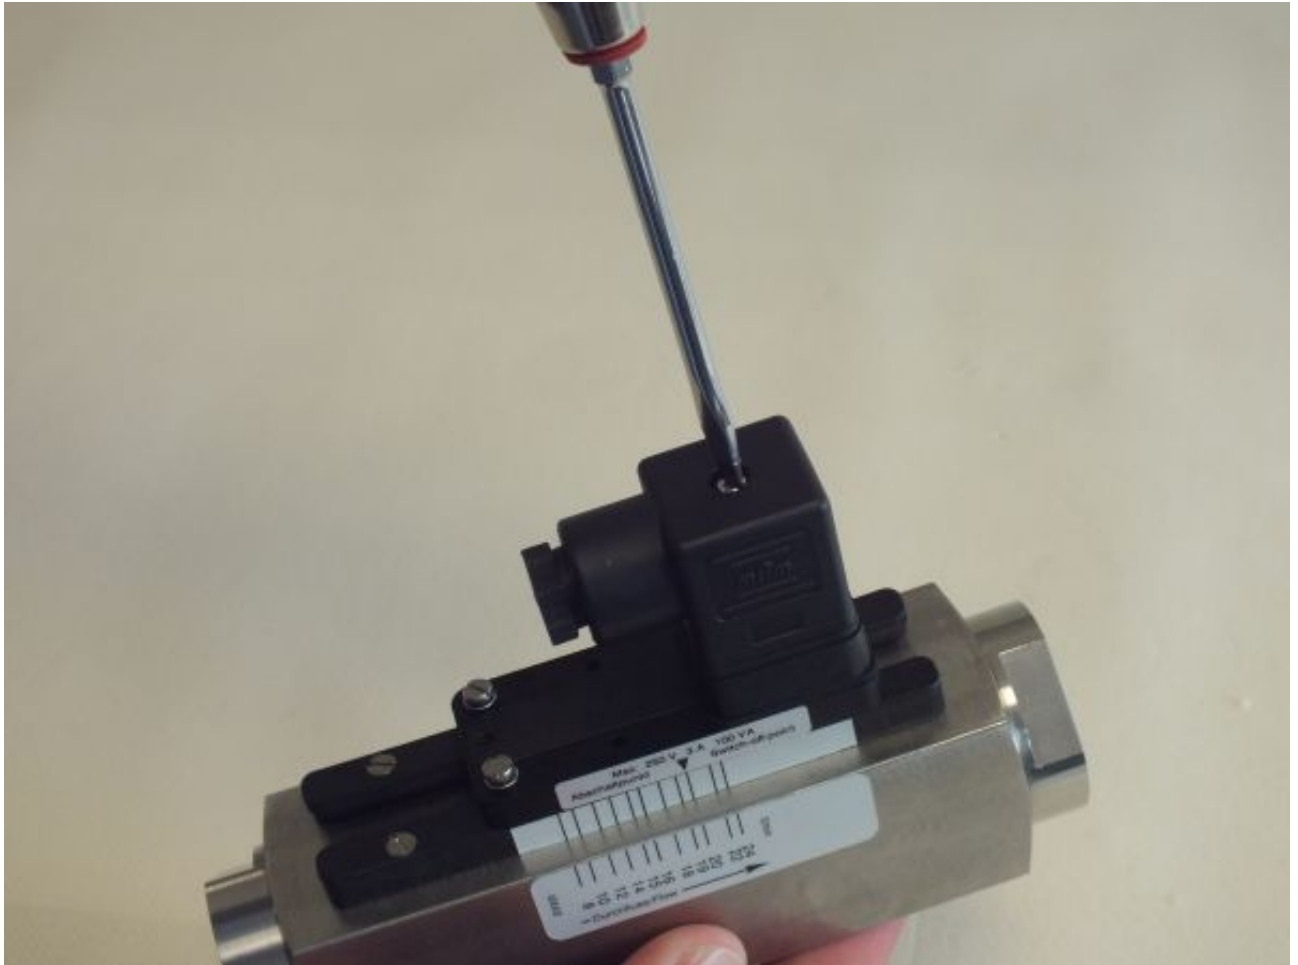

Fig. 27: Detach socket
- 1.** ➤ Release the fixing screw (*Fig. 27*) from the socket